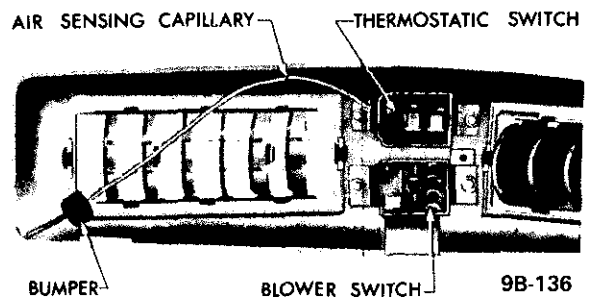

Figure 9B-170 Location of Air Sensing Capillary
3. Remove the face plate retaining screws and remove face plate assembly noting the position of the air sensing capillary so that it can be reinstalled in the same location as when removed. See Figure 9B-170.